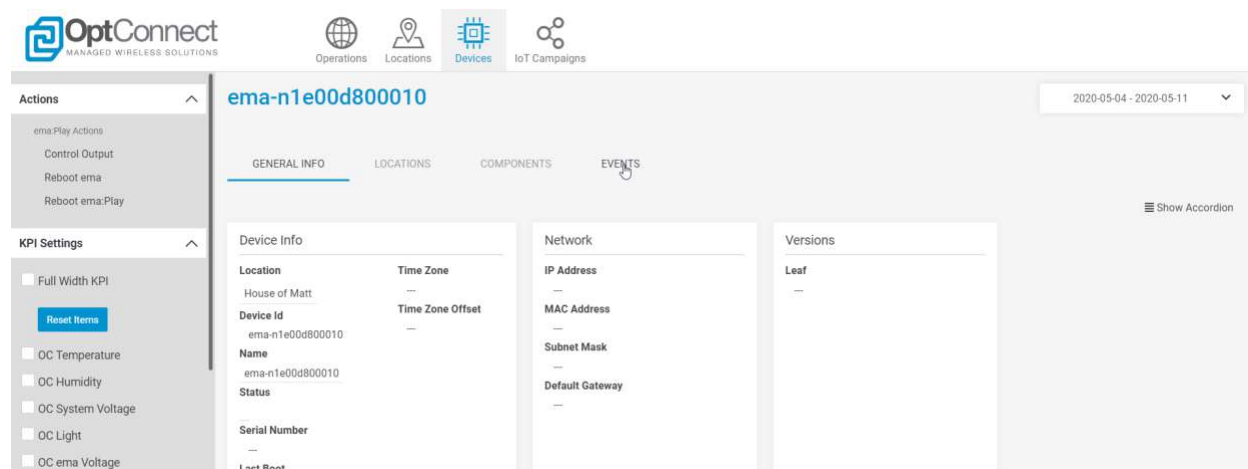
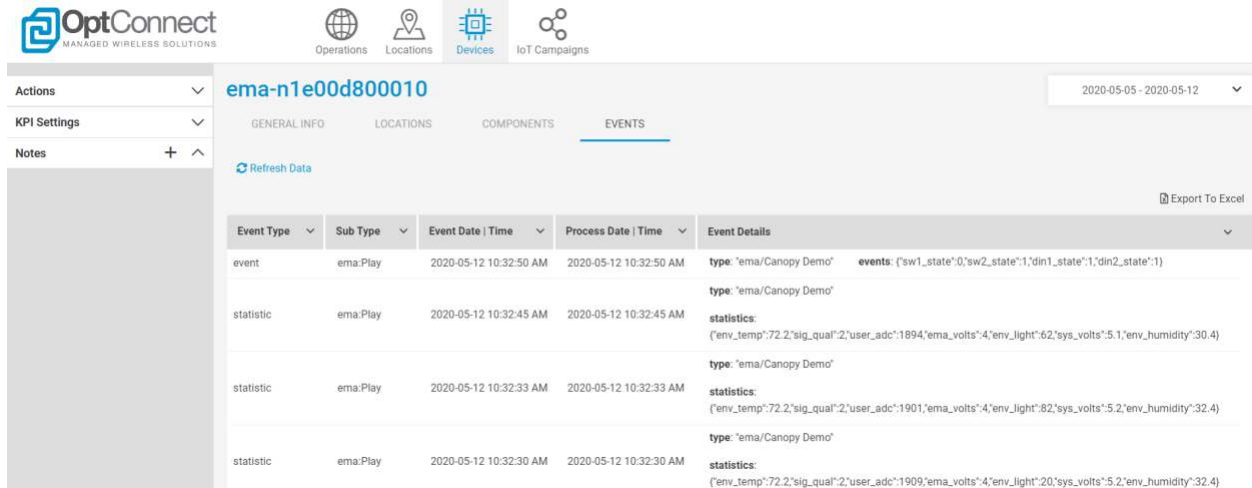

Figure 40
Figure 41
2. Click on the “Events” sub tab as shown in *Figure 40*. This will load and list all Leaf messages that are being transacted between the ema:Play hardware and the Canopy dashboard. *Figure 41* (below) illustrates what this could look like. This information can be used for debugging purposes to gain insight on the raw data that is flowing.
It can be observed from *figure 41* that an *event* type message was received on 5/12/2020 at 10:32:50 AM. The JSON data shows that the event that triggered this message was "sw2_state":1. This indicates that a button(ref des SW8) was pressed and released on the ema:Play hardware. Furthermore, *statistic* type messages have also been received updating the KPI state of the telemetry data that can be viewed on the "Operations" tab.